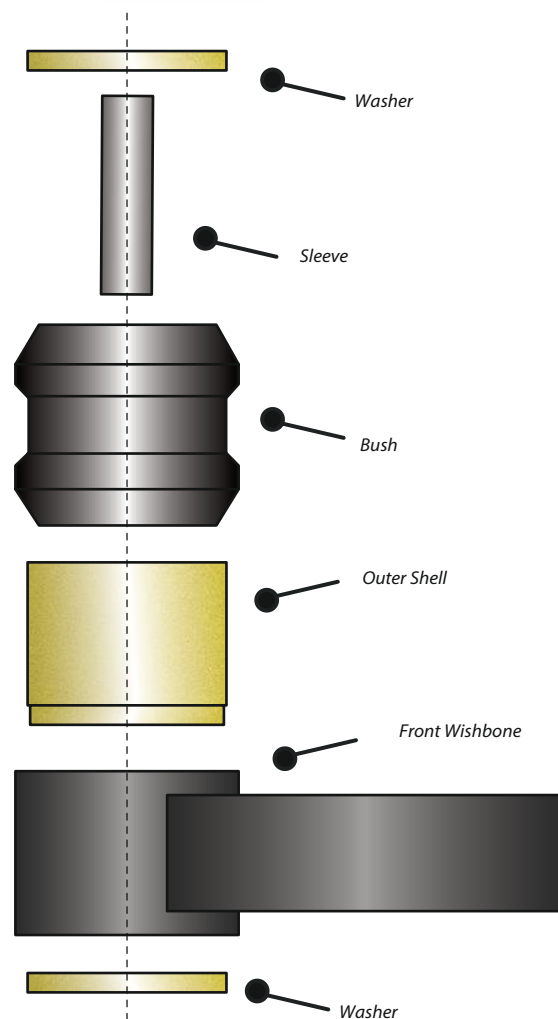

Figure 1
3. Press the outer shell in from the top of the arm as shown in Fig 1. Start with the leading edge and ensure that the shell is pressed in square to the arm.